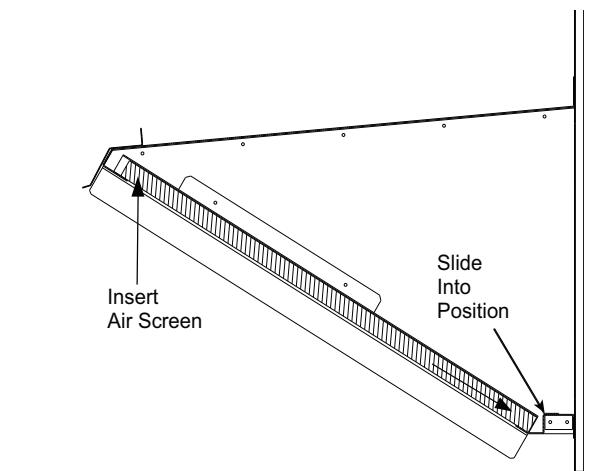
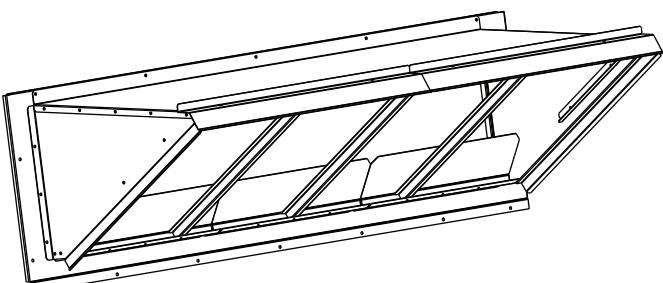

Fig. 27 — Outdoor Air Screen Installation
Fig. 28 — Completed Hood Assembly
12. Install outdoor air screens by sliding them into each of the four spaces created by the hood, filter support and central retainers. To do so, first insert the air screens into pocket created at the end of hood (Item 3), then fully put the air screen into place, and then slide them back into pocket created in the filter support (Item 1). Repeat this for each air screen (see Fig. 27). See Fig. 28 for completed hood assembly.